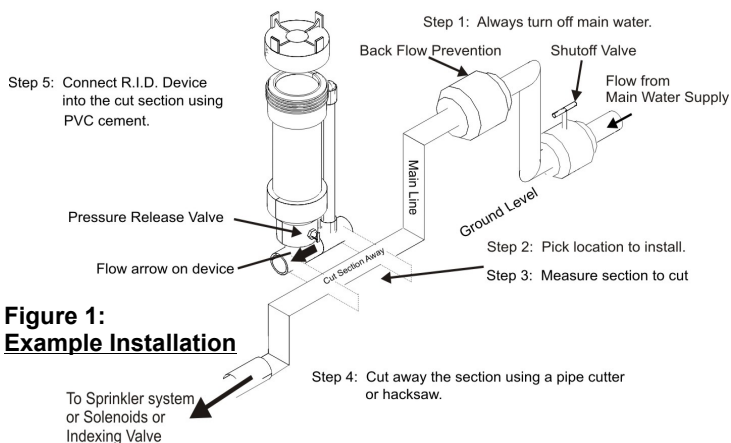

Figure 1:
Step 1: Turn off the main water supply before beginning work see Figure 1.
Step 2: The R.I.D. system should be placed in a convenient location that is easily accessible. Select a location before the sprinkler systems solenoid or indexing valves and after the main line backflow prevention and manual master shutoff ball valve. See Figure 1.
Step 3: Carefully measure main line pipe and cut. See Figure 1.
Step 4: Cut the measured section away using a pipe cutter or hacksaw. See Figure 1.
Step 5: Clean pipe, then using PVC cement or compression fittings, be sure to connect the R.I.D. System to the main line according to the FLOW arrow on the device. See Figure 1. **NOTE:** If using compression fittings you will still need to glue a minimum 3" long extension of 1" diameter pipe to both sides of the device.